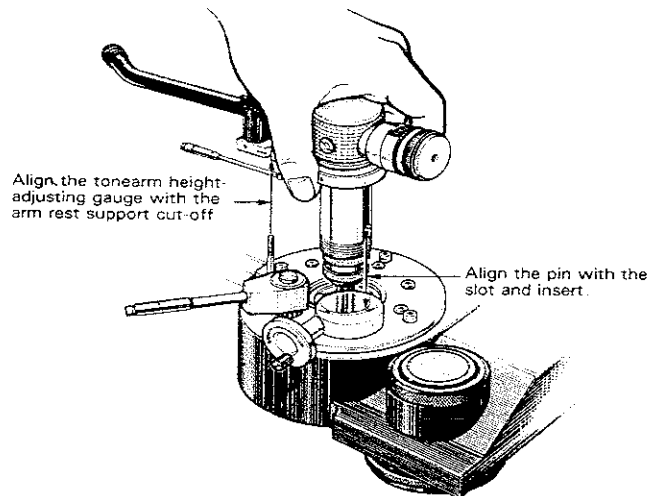
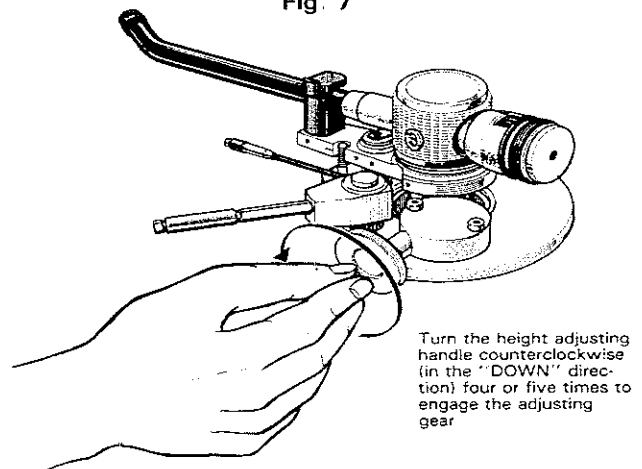

Fig. 7
Fig. 8
2. Align the tonearm height-adjusting gauge with the arm rest support cut-off and carefully insert the tonearm into the arm base (Fig. 7). Turn the height adjusting handle counterclockwise (in the 'DOWN' direction) four or five times to engage the adjusting gear (Fig. 8). Adjust the tonearm height after installing the cartridge (refer to page 8).